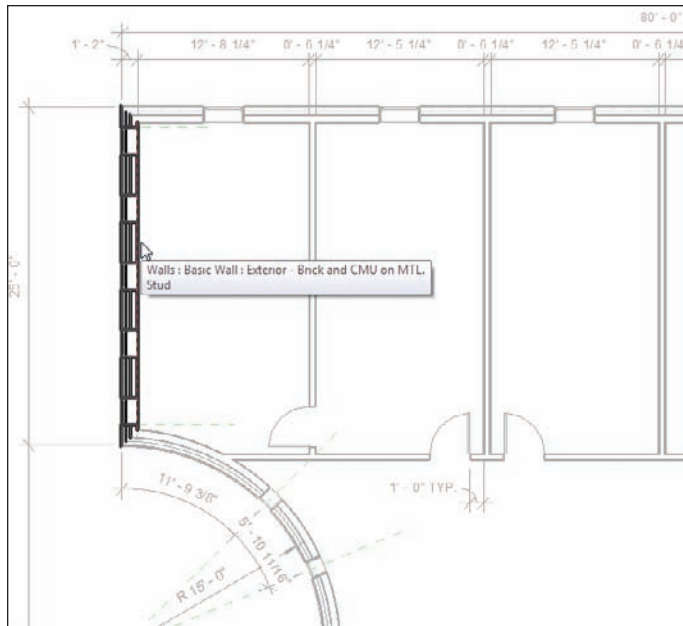

FIGURE 6.9 Picking the inside face of the first wall
2. With the Pick Walls tool running, hover your mouse over the inside face of the wall, as shown in Figure 6.9.
3. After the wall becomes highlighted and you are sure you are on the inside of the wall, pick it (see Figure 6.9).